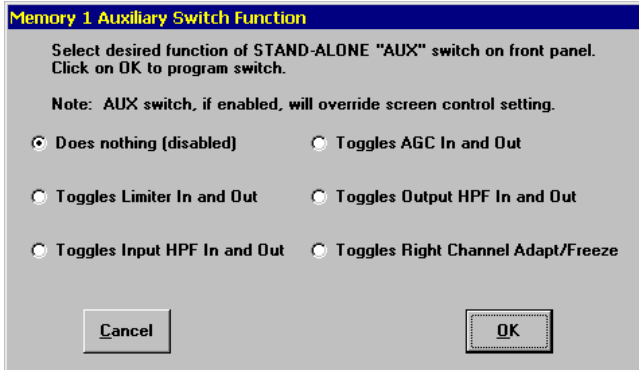

Figure 4-64 Auxiliary Switch Function Window
3. Click on the selected memory. The following window (Figure 4-64) will now appear: